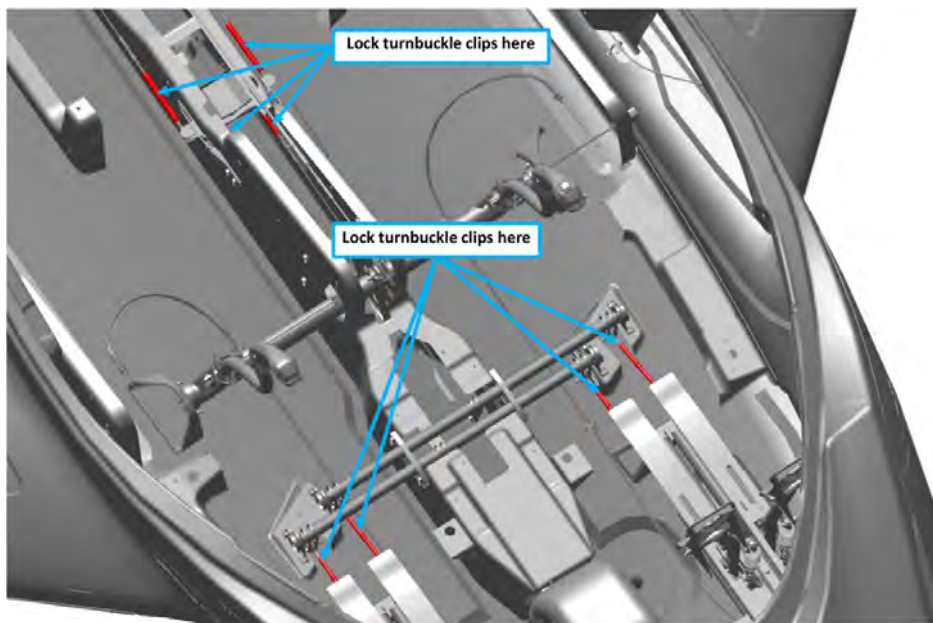

FIGURE 10-60
15. Lock all turnbuckle clips (2 per turnbuckle) in place, refer to Figure 10-60: